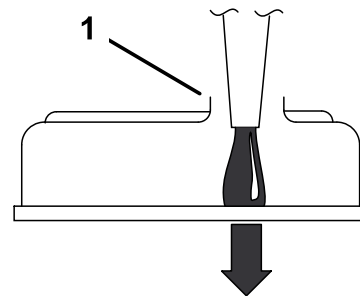

Figure 57
**Important:** Add the oil very slowly and do not block the opening of the filler hole (Figure 57). If you add oil too fast or block the hole, the oil could back up and foul the air intakes, causing engine damage.